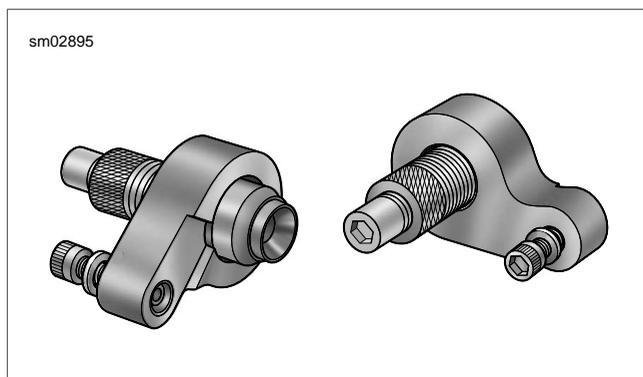

Figure 2-36. Vehicle Alignment Tool (HD-46247A)
- a. Install alignment screws and pilots in appropriate alignment fixtures. See Figure 2-36.